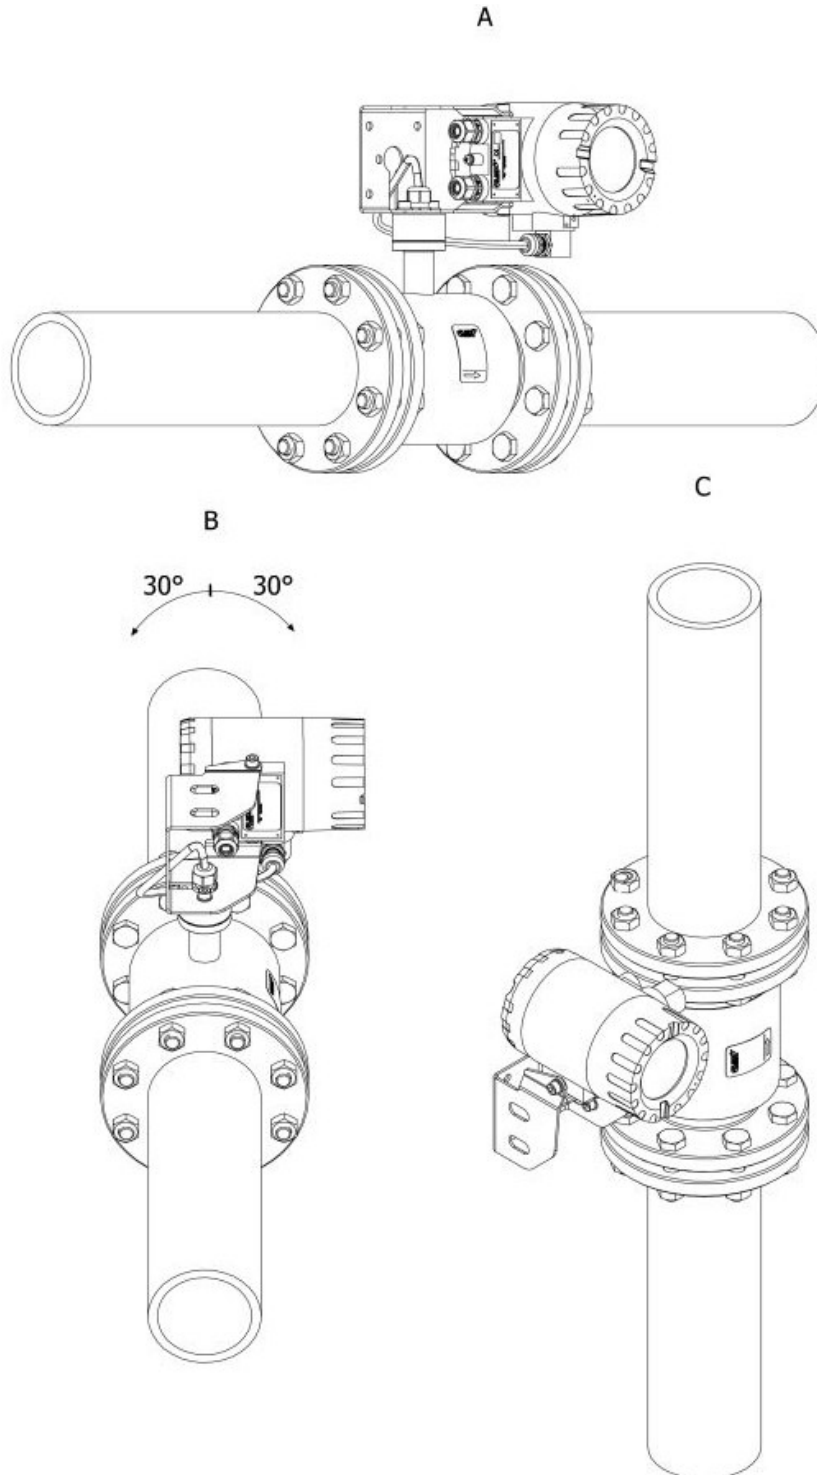

Figure 6. Installation of the PEM-1000 flowmeter - examples
- It is recommended that the flowmeter is installed so that the electrode axis is as horizontal as possible, in accordance with the examples → Figure 6. Installation of the PEM-1000 flowmeter - examples.